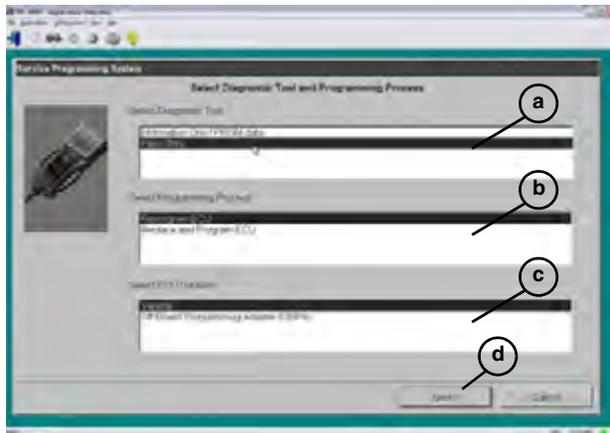

Figure 2.12: Select Diagnostic Tool and Programming Process Window
- Click the **Service Programming System icon** to start the SPS application. This displays the SPS System's Select Diagnostic Tool and Programming Process window (Figure 2.12 on page 19).